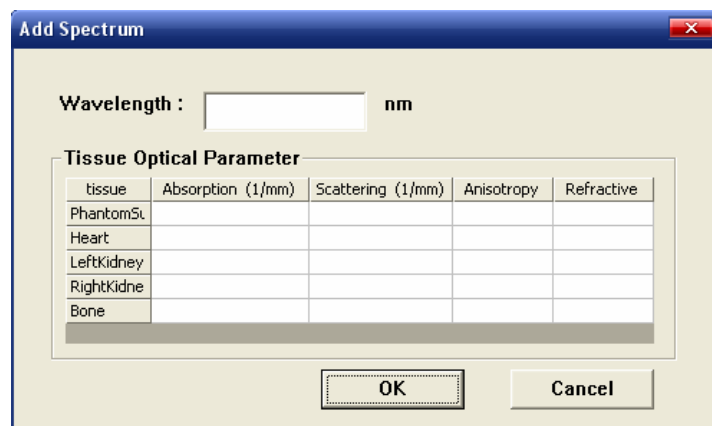

Figure 6-1. Dialog box for adding spectrum band
b. Click the button **Add Spectrum**, we can add new spectrum band as Figure 6-1 indicates. Also the optical parameter of all the tissues in the new spectrum band should be set in this dialog box. The information of the light sources in this spectrum band could be set in 'Light Source' Parameter Page.